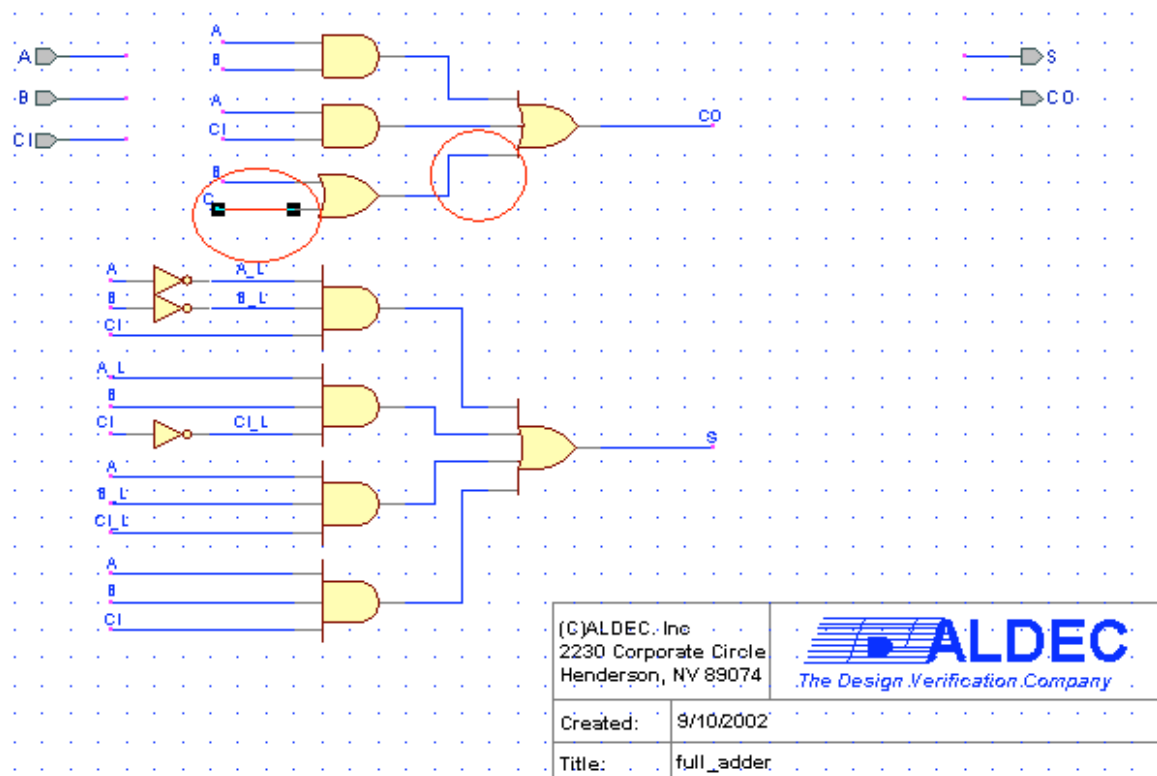

Figure 45
2. Clicking on the first line took us to the broken connection on the 3-input OR gate. The part in question was highlighted in a red box (not shown here). Therefore, we simply reestablished the connection by dragging the hanging wire to the 3-input OR gate port (shown fixed in Figure 45).
3. The second warning showed that net 'C' was without a source. Again, we clicked this hyperlink, and it took us to our schematic and highlighted the wire named 'C' in red (see Figure 45). The connection looked fine, but notice that we have no terminals by the name of 'C'. The terminal we wanted to connect from was 'CI'. This kind of mistake is common when using naming connections, and Active-HDL is good at alerting us to this mistake.